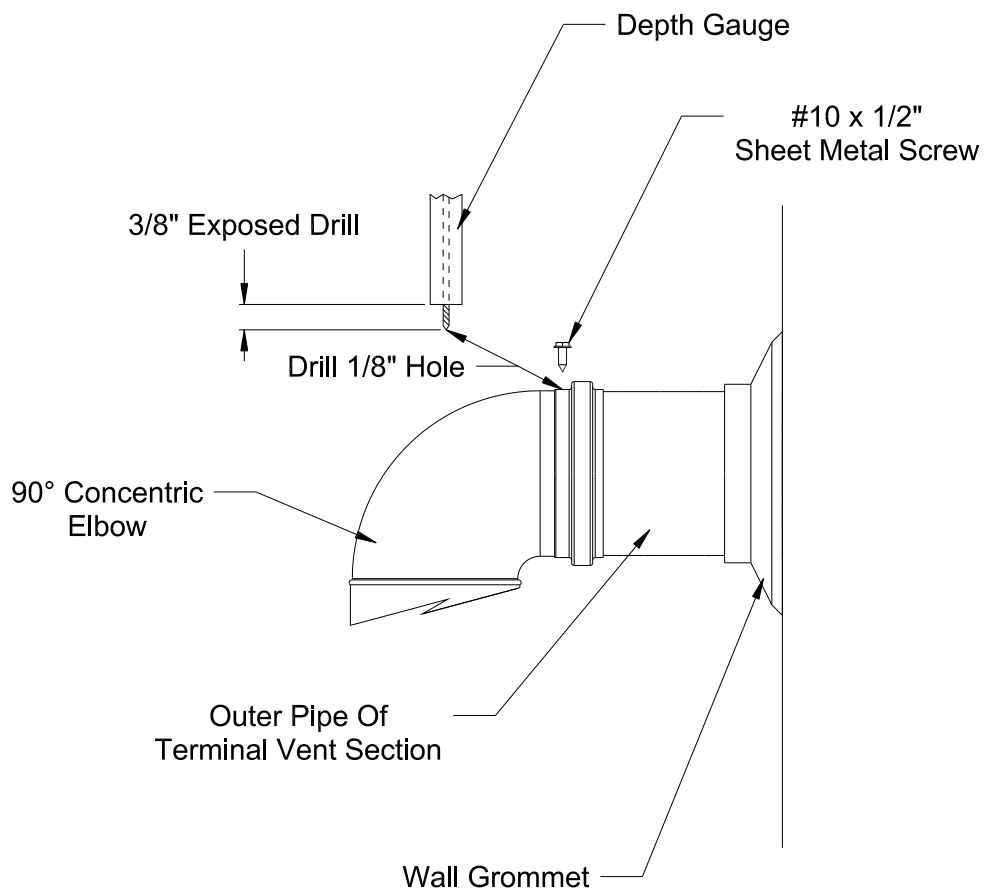

Figure 7.25: Attaching 60/100mm Terminal Section
- i) The terminal section must be attached to the elbow with a single #10 x 1/2" sheet metal screw (not supplied) at the top of the elbow. Drill a 1/8" hole in the location shown in Figure 7.25. **Use a short drill bit or a drill stop to ensure that the drill bit does not penetrate the pipe by more than 3/8"**. Install a #10 x 1/2" screw in this hole. **Do not use a screw longer than 1/2" long.**